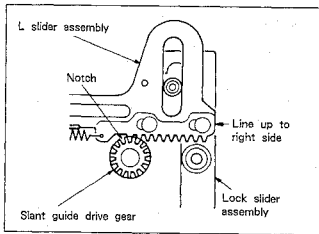

Fig. 7-27.
- > Operate the mode selector, and line up the right edge of the L slider assembly and the right edge of the lock slider assembly. (See Fig. 7-27.)
Note: At this time, confirm the engagement position of the slant guide drive gear and L slider assembly gear. (See Fig. 7-27.)